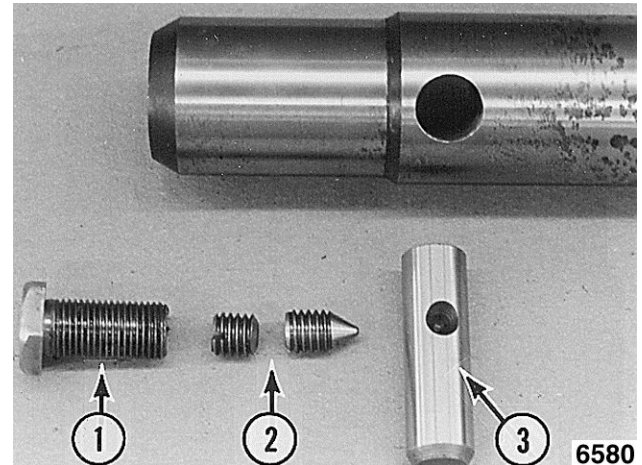

Fig. 31
1. Remove plug screw [1] Fig. 31.
2. Remove set screws [2] Fig. 31 (qty. 2).
3. Remove pin [3] Fig. 31.